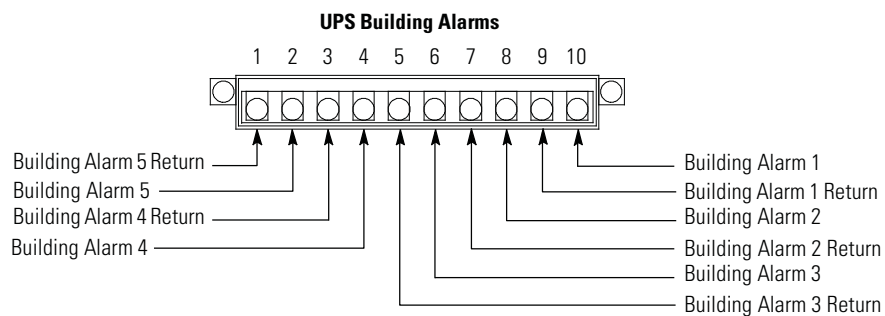

Figure 4-13. Building Alarm Terminal Block Connector Assignments
13. Connect the building alarm interface wiring to the building alarm terminals. See paragraph 3.2.4 and Table 4-3 for wiring and termination requirements, and Figure 4-13 for terminal assignments.
15. Connect the battery detect wiring to one pair of building alarm terminals. See paragraph 3.2.4 and Table 4-1 for wiring and termination requirements, and Figure 4-13 for terminal assignments.
13. Connect the building alarm interface wiring to the building alarm terminals. See paragraph 3.2.4 and Table 4-1 for wiring and termination requirements, and Figure 4-13 for terminal assignments.